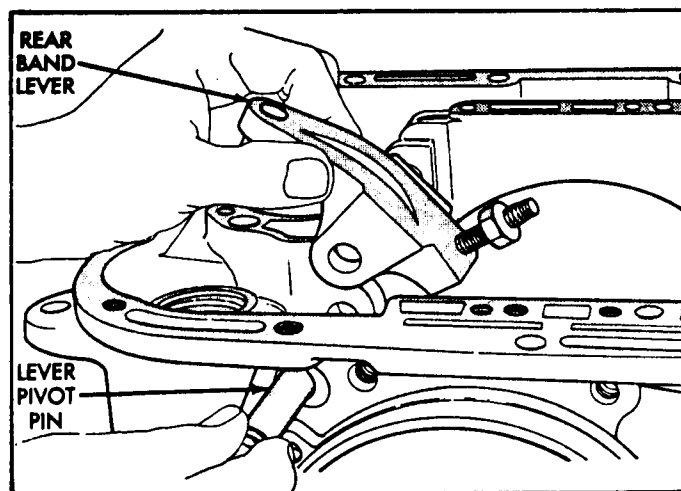

Figure 132
13. Install the rear band lever and pivot pin, as shown in Figure 132.
14. Align the rear band lever with the pin bores in case, and push the pivot pin into place (See Figure 132).